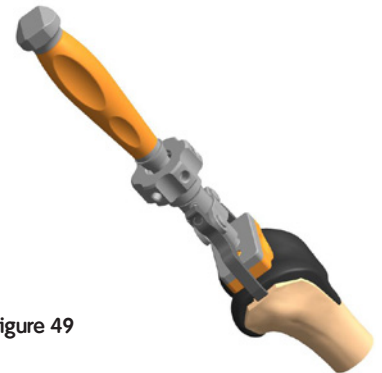

Figure 49
4. Impact on the angled surface of the Femoral Implant Impactor to rotate the Femoral Component from posterior to anterior until the distal surface is completely flush with the distal resection (Figure 49).